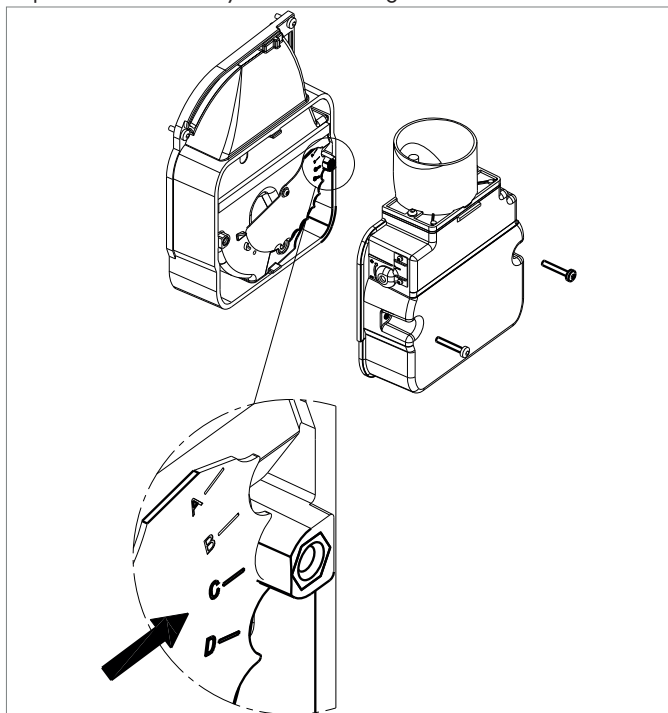

Figure 10-9: Air adjuster disc
It is essential, for correct operation of the burner, that this internal air adjuster disc is correctly set. Refer to Figure 10-9.
4. The air adjuster disc is mounted on the fan housing. Refer to Figure 10-9.